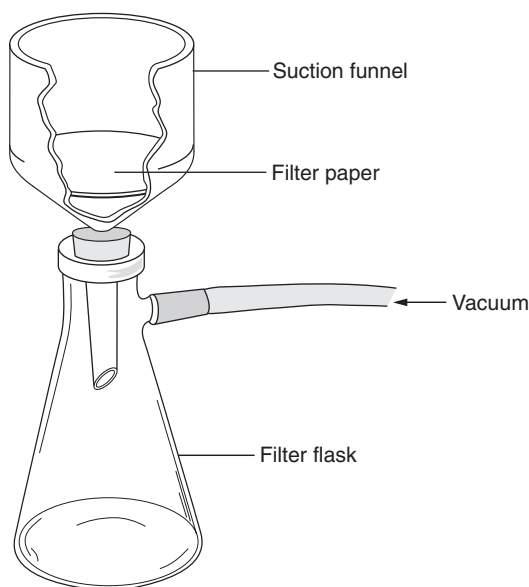

Figure 31.2
- G. Weigh a piece of filter paper on a centigram balance before inserting it into the funnel. Collect the aspirin by filtering the cold liquid through a Büchner funnel, using suction, as in Figure 31.2. Disconnect the rubber hose from the filter flask, pour about 5 mL of ice-cold deionized water over the crystals, and suck down the wash water. Repeat the washing step with a second 5-mL rinse of ice-cold water. Draw air through the funnel for a few minutes to help dry the crystals, and then transfer the filter paper and crystals to a clean watch glass.
- D. After the mixture has been stirred and mixed completely, filter off the soap on a Büchner funnel, using suction, as illustrated in Figure 31.2. Rinse with two 10-mL portions of ice-cold water, drawing this water through the funnel. Allow your soap to dry by spreading it out on a paper towel.